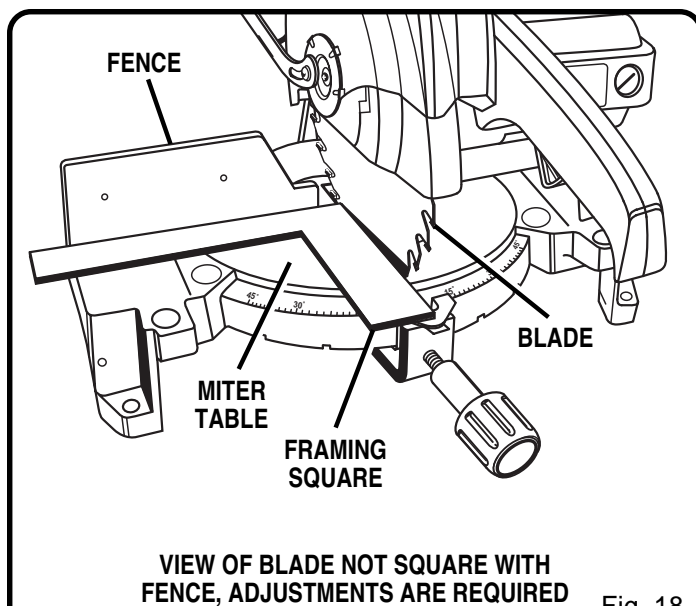

Fig. 18
- If the front or back edge of the saw blade angles away from the square as shown in figures 18 and 19, adjustments are needed.